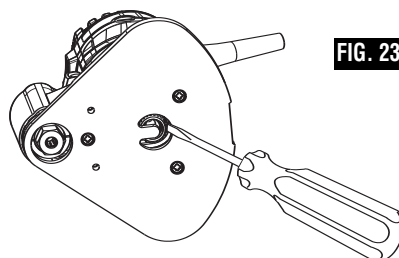

FIG. 23
3. Insert screwdriver (not included) through the U-shaped opening in the subbase to fit belt over drive pulley. (Fig. 23)